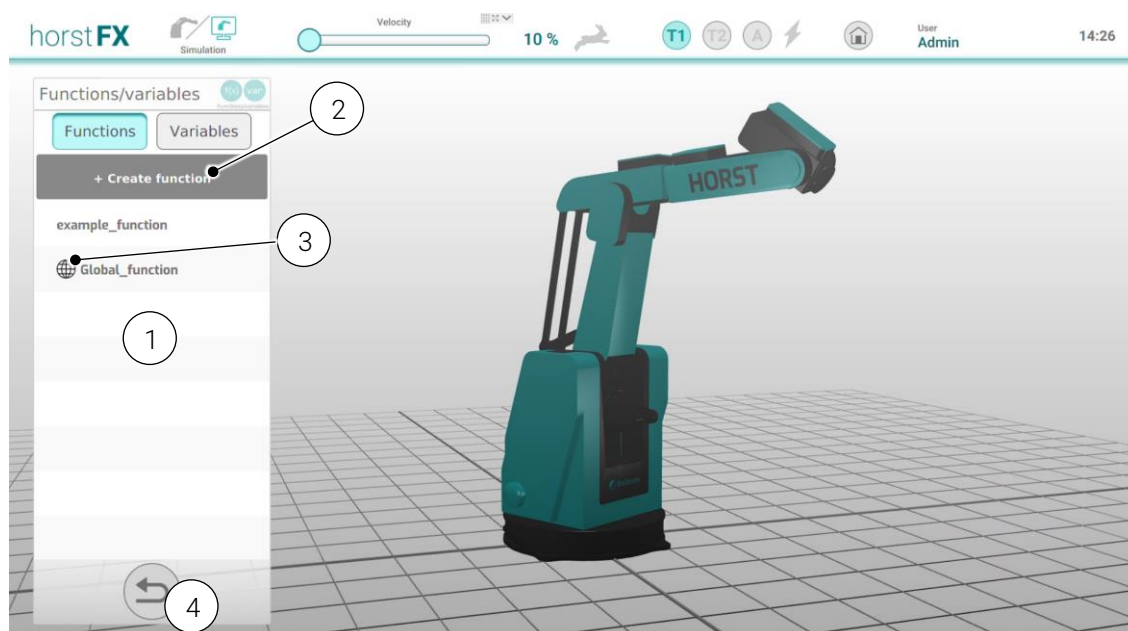

Fig. 6-463: Functions list
By tapping the **Functions/Variables** buttons (1) in the programming view, the program tree is replaced by a list of all existing functions (see Fig. 6-463).